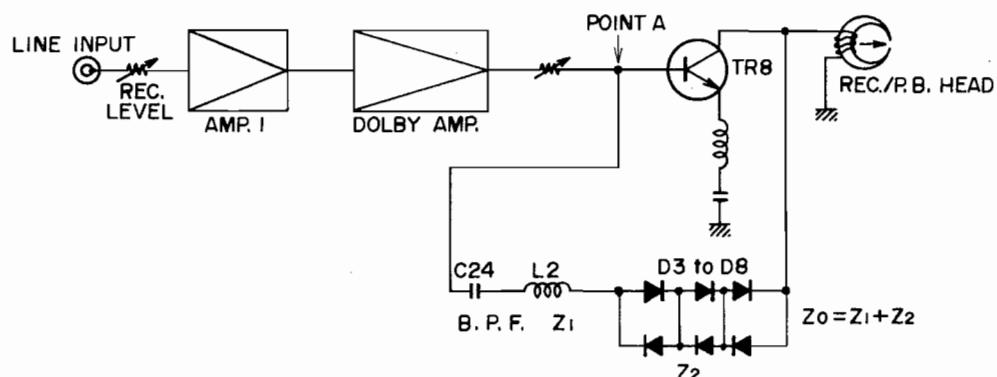

Fig. 52 A.D.R. Block Diagram (at Rec. mode)
1) Refer to Fig. 52
3) Refer to Fig. 52
However, at this time, TR8 output passes the A.D.R. element which is comprised of D3 through D8, and the f_0 vicinity frequency only is allowed to pass the B.P.F. and is supplied to point (A) in Fig. 52.